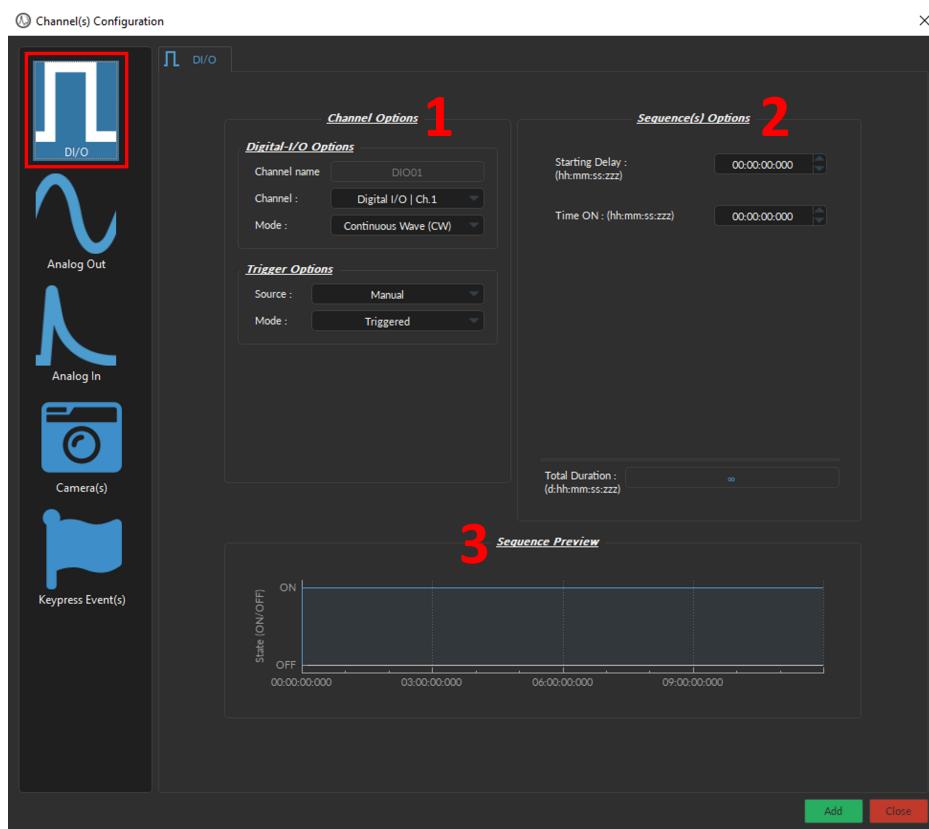

Figure 5.13: *Channel(s) Configuration*, Digital I/O
The *Channel(s) Configuration* window for the **Digital I/O** Channel is divided into three sections (Fig. 5.13): (1) the **Channel Options** (Section 5.4.3.1), (2) the **Sequence Options** & (3) **Preview** (both treated in Section 5.4.3.2).